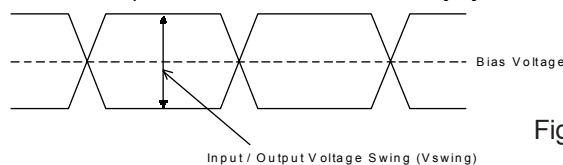

Figure 7. Definition of Differential Input / Output Voltage Swing
- Refer to Figure 7.
- Vcc=+3.3V+/-5%, Output load resistance Rdif=100Ω. Refer to Figure1-(B). Refer to Figure7. about definition of differential swing.